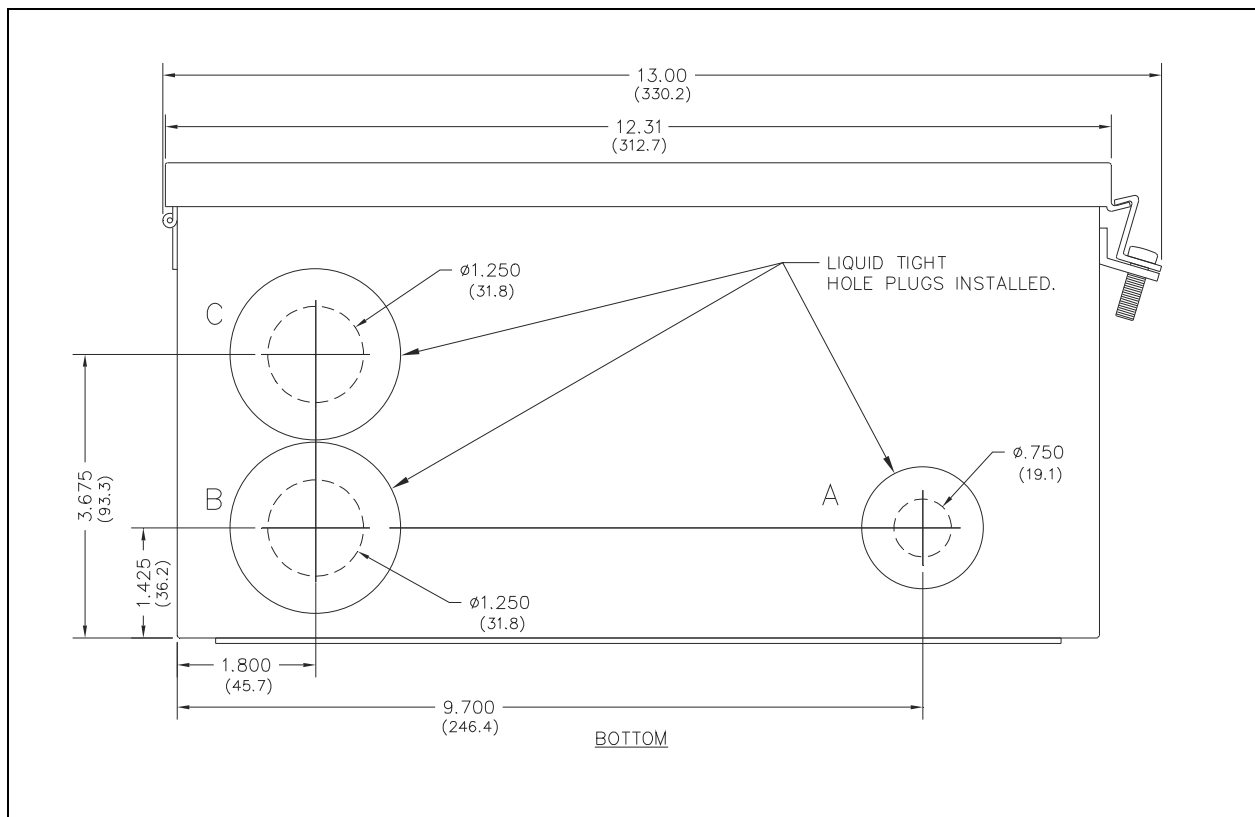

Figure 3. IP MRM Cable Entries
- GAI-Tronics supplies the Model 379-003 IP MRM station enclosure with two 1-1/4-inch holes and one ¾-inch hole with sealing hole plugs (see Figure 3). Remove hole plugs and install (*customer supplied*) liquid tight conduit or cable glands when connecting field wiring.
- Use entry hole **A** for ac input power wiring. Use entry holes **B** and **C** for signal/control and/or Ethernet connections (see Figure 3).